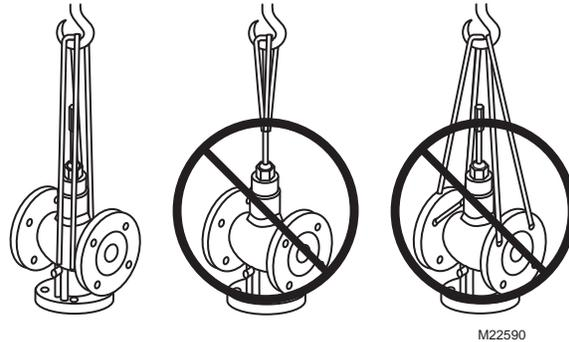

Fig. 8. Proper hoisting of VGF Valves.
The valves are to be installed by skilled personnel and in strict accordance with the installation instructions and local regulations. (See Fig. 8 for proper hoisting method.) Honeywell assumes no responsibility for damages or injuries resulting from non-compliance with installation instructions or standard good practice when mounting, operating, or maintaining the valves, even if not explicitly mentioned in the
1. Hoist valve by its body only. Do not lift by stem, bonnet, flanges, or flange holes. (See Fig. 8.)